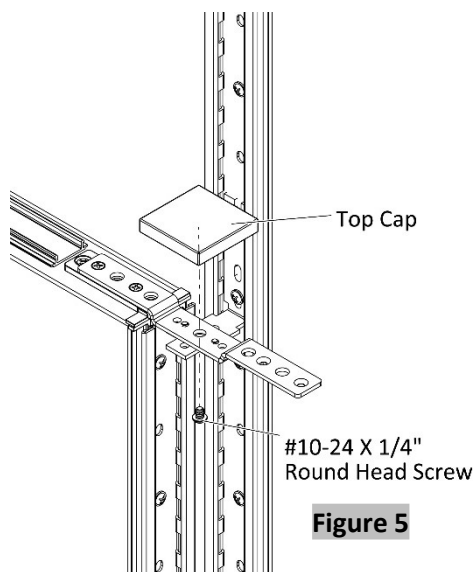

Figure 5
8. Position and securely fasten top cap into the connectors with #10-24 X 1/4" Round Head Screw, (Figure 5).